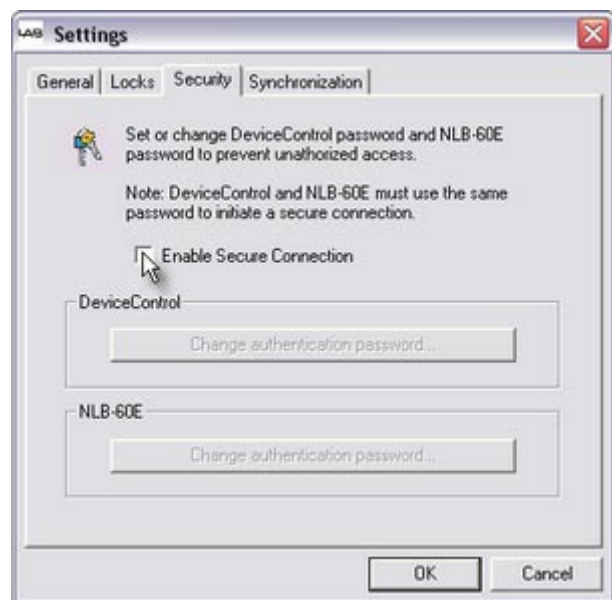

Figure 6.1
3. Check the "Enable Secure Connection" (box Figure 6.1).